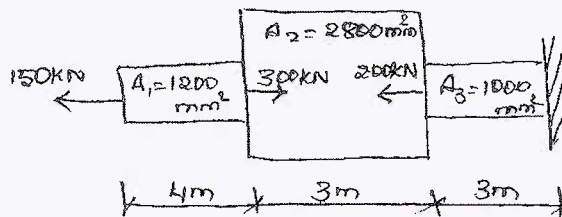

Fig.Q1(b)
- b. Evaluate the deformation of the bar, given, $E_1 = E_2 = E_3 = 200\text{GPa}$, refer Fig.Q1(b). (10 Marks)